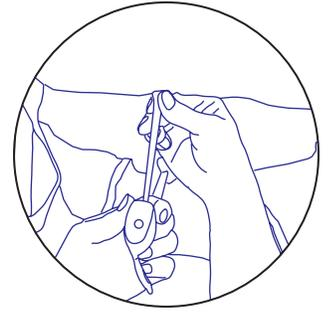
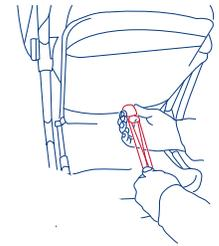

Figure 13.
Figure 14.
- The seat has a multiple position recline that is controlled by a cord and spring loaded adjuster behind the seat. To recline the seat, pull back on the adjuster while holding the 2 cords. See figure 13. To place the seat back in a more upright position, grab the adjuster with one hand and pull the loop to the desired position with the other hand. See figure 14. The cord will lock automatically.